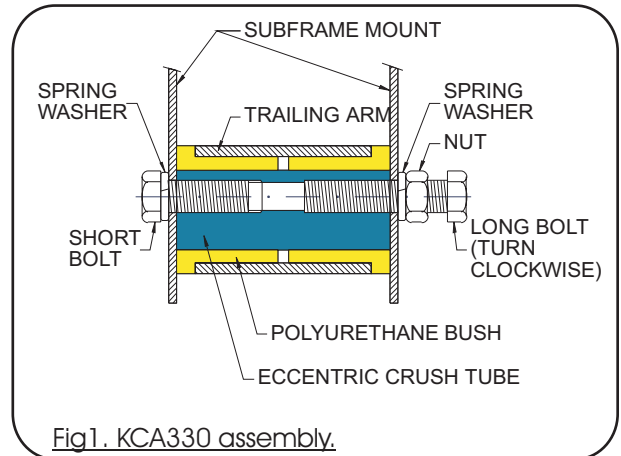

Fig1. KCA330 assembly.
6. Reconnect trailing arm to cross-member as per Fig.1. Ensure that long bolt (fitted with nut and washer) is positioned to the side with the most access. Screw long bolt in completely until it bottoms out in the thread and starts to turn the eccentric metal crush tube.